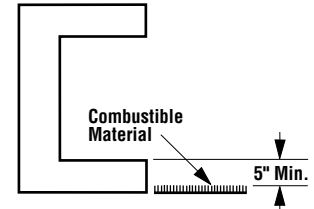

Figure 6
Step 5. Floor clearance: If combustible flooring materials, such as carpeting or asphalt tile, are to be located within 14" of the fireplace or firebox opening, the room heater base must be at least 5" above the combustible flooring material (Figure 6).